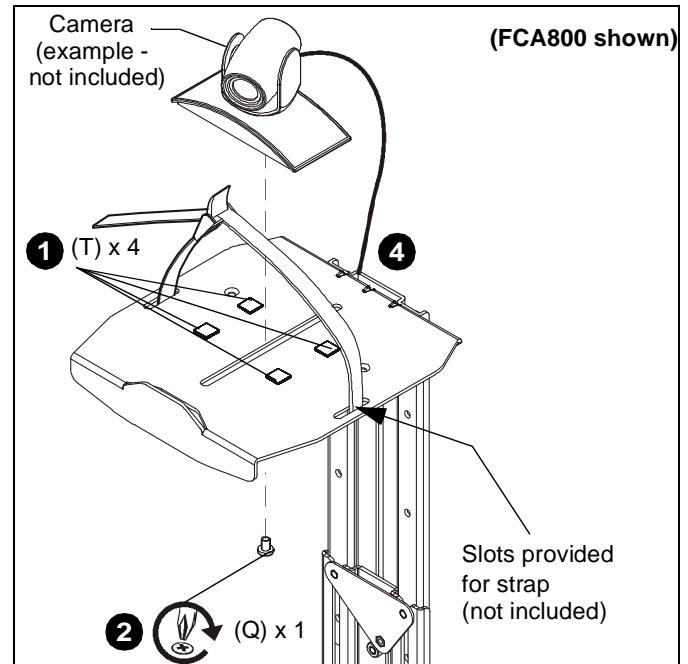
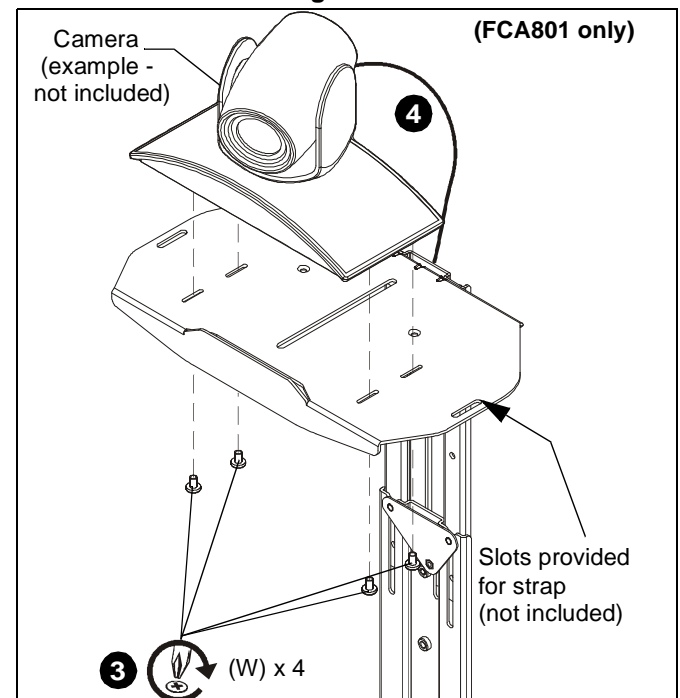

Figure 27
Figure 28
NOTE: OPTIONAL: Slots are provided in shelf for strap (not included) to hold camera in place. (See Figure 27)
2. (Single Screw option) Install 1/4-20 x 3/8" Phillips pan machine screw (Q) through mounting slot on shelf and into hole on bottom of camera. (See Figure 27)
3. (Multiple screw option - FCA801 only) Install four #4-48 x 1/4" Phillips pan machine screws (W) through outside mounting slots and into holes on bottom of camera. (See Figure 28)
4. Route cable from camera towards back of shelf and down behind the FCA800/801. (See Figure 27) and (See Figure 28)